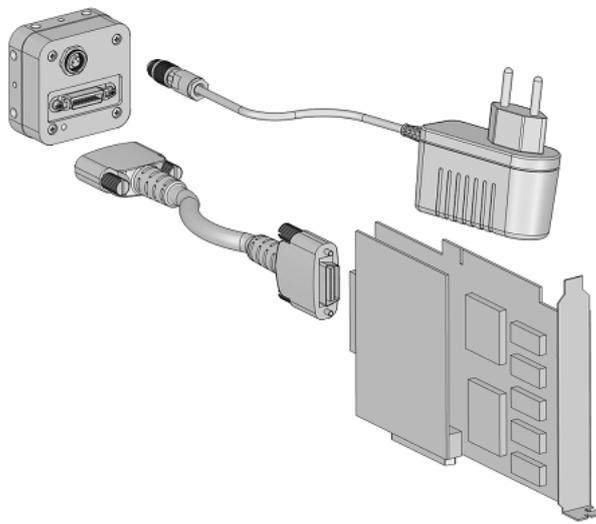

Figure 2.2: Camera with frame grabber, power supply and cable.
5. Connect the camera to the frame grabber with a suitable CameraLink cable (see Fig. 2.2).
7. Connect the power supply to the camera (see Fig. 2.2).